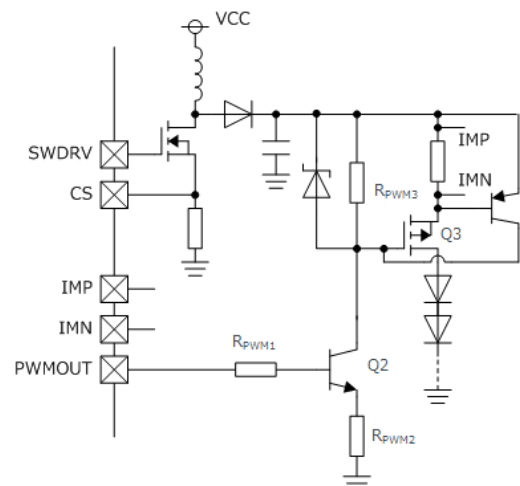

Figure 22. LED Anode Ground Fault Protection Attaching Externally Circuitry
- ① UVLO is cancelled when $V_{CC} > 4.25\text{ V}$ (Typ).
- ② IMP-IMN terminal voltage rises to become 200 mV.
- ③ Switching Duty gradually expands and is stabilized at IMP-IMN of 200 mV.
- ④ Output voltage is stabilized.
- ⑤ LED Anode-GND short-circuits.
- ⑥ It becomes $\text{IMP-IMN} \geq 0.3\text{ V}$ (Typ) and performs output Short circuit detection (SCP) and outputs SWDRV / PWMOUT = Low. Discharges an SS terminal and the FAIL terminal changes into High $\Rightarrow$ Low.
- ⑦ When SCP is detected, capacitor connected to TDISC will be charged ($11\text{ }\mu\text{A}$ (Typ)) until V_{TDISC} becomes 1.0 V (Typ).
- ⑧ Once SCP detection is released at $V_{\text{TDISC}} \geq 1.0\text{ V}$ (Typ), capacitor connected to TDISC starts to discharge, and SS charging, SWDRV / PWMOUT operate normally.
- ⑨ If SCP condition $V_{\text{TDISC}} \geq 0.3\text{ V}$ (Typ) is fulfilled restarts from condition ⑥ operates normally if SCP condition is not fulfilled.
Operation described above is performed in the LED anode ground short fault. However, even if SCP is detected by the potential difference of IMP pin and the IMN pin, there is delay time of internal circuit after detection and require time before PchMOS is off. Therefore allowable current of PchMOS may be exceeded transiently. (It may be exceeded in ⑧ of the timing mentioned above.) Therefore, like Figure 22, PMOS can be turned off on an expressway by adding PNP Tr externally.